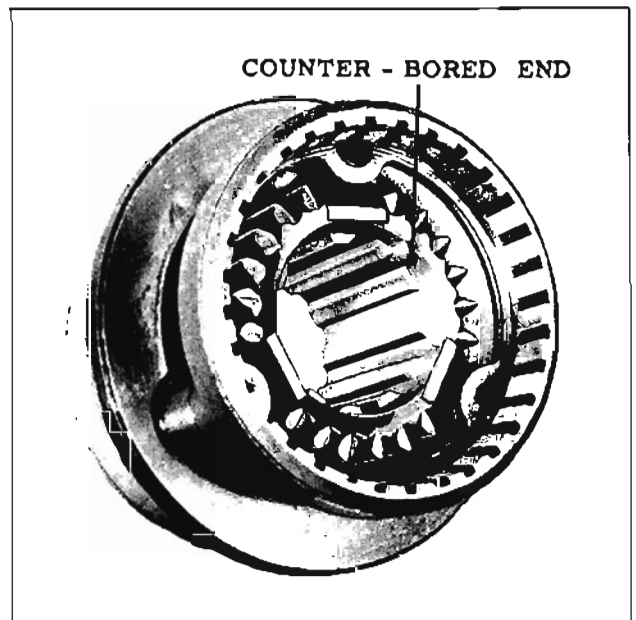

Fig. 7-32 Synchronizing Drum
18. Install the synchronizing drum on the main shaft with the counterbored end of the gear toward the second speed gear. (Fig. 7-32) Engage the synchronizing drum with the second and third speed shifter yoke and index the first and reverse shifter yoke, then tap the main shaft forward until it pilots in the main drive gear and the rear bearing pilots in the case.